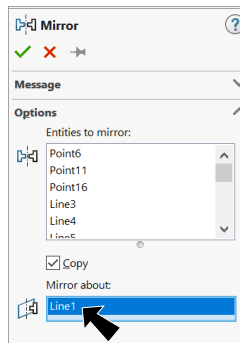

Fig. 61
Step 14. In Mirror Property Manager: under Entities to mirror, **Fig. 61**